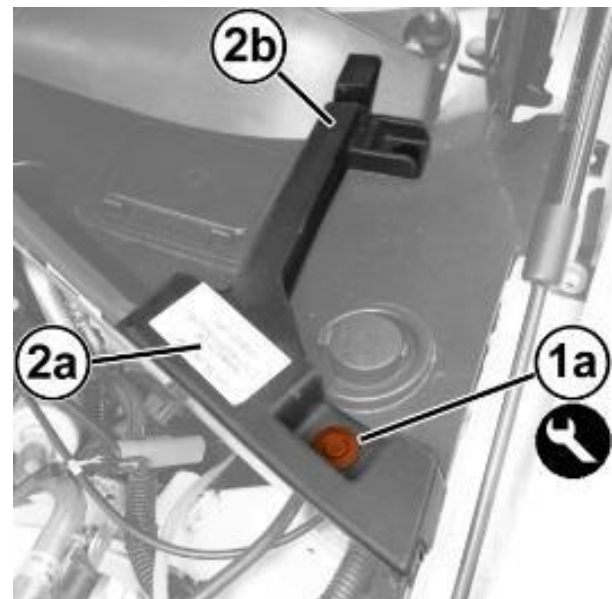

Figure 12 – Side Profile
23. Working on both sides of the windshield base trim, remove the retaining button (1a) after releasing its central pin using the appropriate tool Trim Stick C-4829A (1823015000) (Figure 12).
24. Lift and move the front (2a) of the side profiles (2b) out of the way, to access the mountings under the windshield trim (Figure 12).